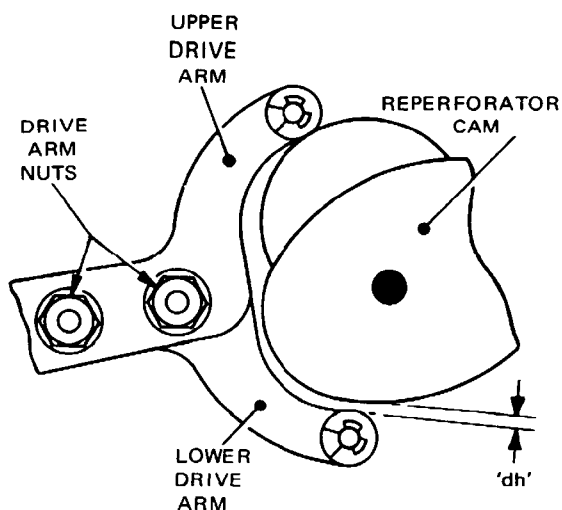

Fig. 4.122 DRIVE ARM/CAM CLEARANCE
- 131.1 Release the trip lever latch and turn the machine slowly by hand through a complete revolution. During the revolution, hold the roller on the upper drive arm, Fig. 4.122, down on its cam face and estimate the varying clearance (the dimension 'dh') between the roller on the lower drive arm and its cam face. Find the position of the revolution where the clearance is at its minimum, and check that it does not exceed 0.004 inch.